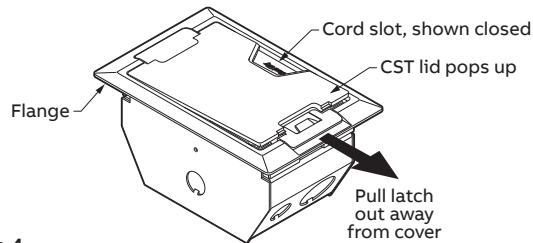

Figure 4
1. Pull Latch out away from CST lid. CST Lid will pop up (Figure 4).